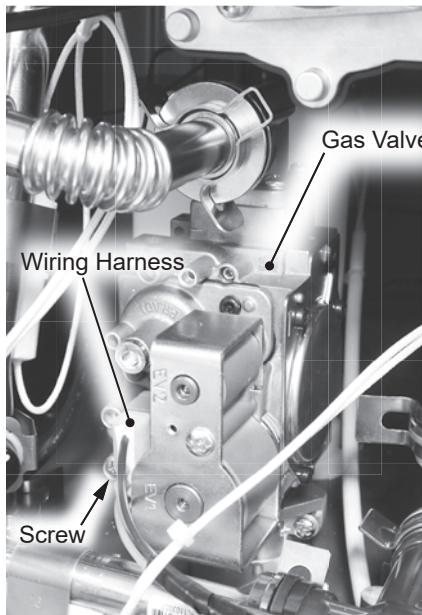

Figure 62 - Gas valve wiring harness location.
- 12 Locate the screw securing the wiring harness to the gas valve. See Figure 62. Use a Phillips screwdriver to remove the screw and place it aside in a safe place for reinstallation.